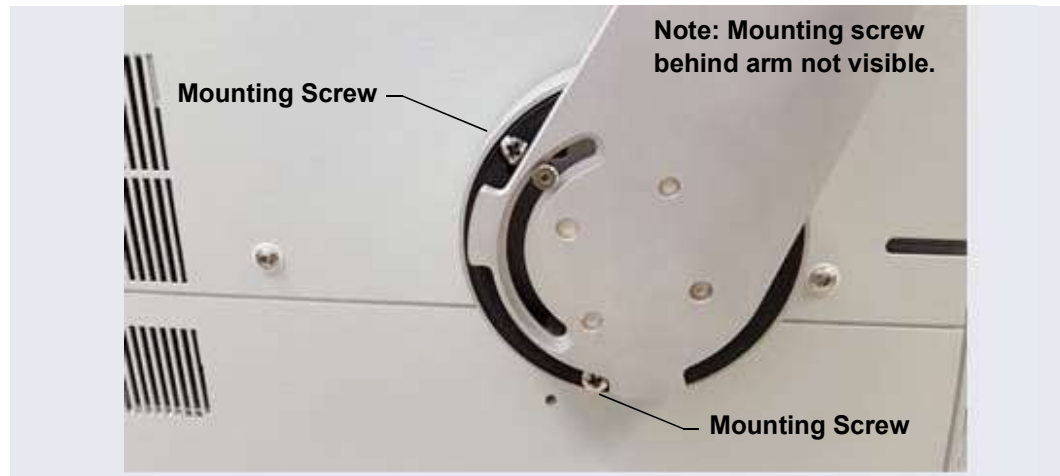

Figure 3-30. *Tightening the Tablet Arm Mounting Screws*
- c. Use a 3 mm socket driver to tighten the screws from the front of the mounting arm (see Figure 3-30). You will need to move the arm to access all three screws.